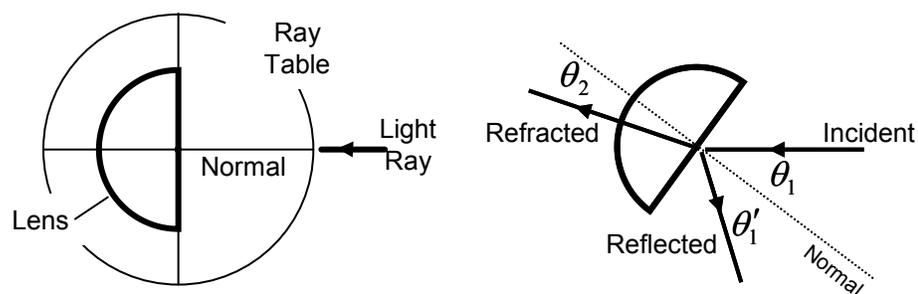

Figure 3: Apparatus alignment
- Attach the optical table to the optics bench and place the semicircular plastic lens on the optical table. The center of the flat face of the lens should be aligned with the line on the table labeled “component”, and the normal line should intersect the center of the flat face as shown in Figure 3.
- Attach the light source to the optics bench and orient the light source so that a single ray of white light leaves the source and shines along the normal line on the optical table. The system should be aligned so that this incident ray (A) strikes the center of the flat face of the semicircular lens. The angle of incidence ( $\theta_1$ ) can then be varied by rotating the optical table. Note that the refracted ray (C) should not change direction as it exits the circular face of the lens.